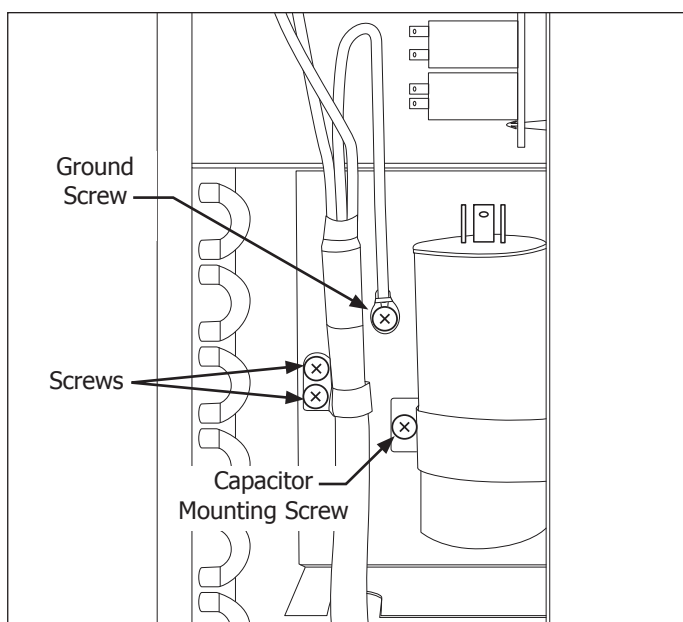

Figure 4-36.
(See Figure 4-36)
6. Extract screw from retainer securing the capacitor to the control box assembly. Pull capacitor from unit. (See Figure 4-36)